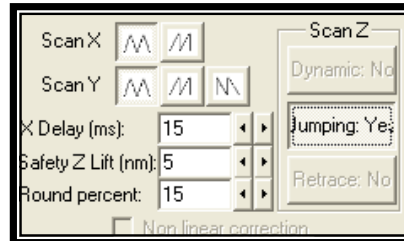

Fig. 4.46
27. In the Scan Options (see Fig. 4.46) select *Dynamic: No*, ***Jumping: Yes*** and *Retrace: No*.
(If you have not done a Dynamic tune, then the Dynamic Mode option will be disabled, as shown in Fig. 4.46).